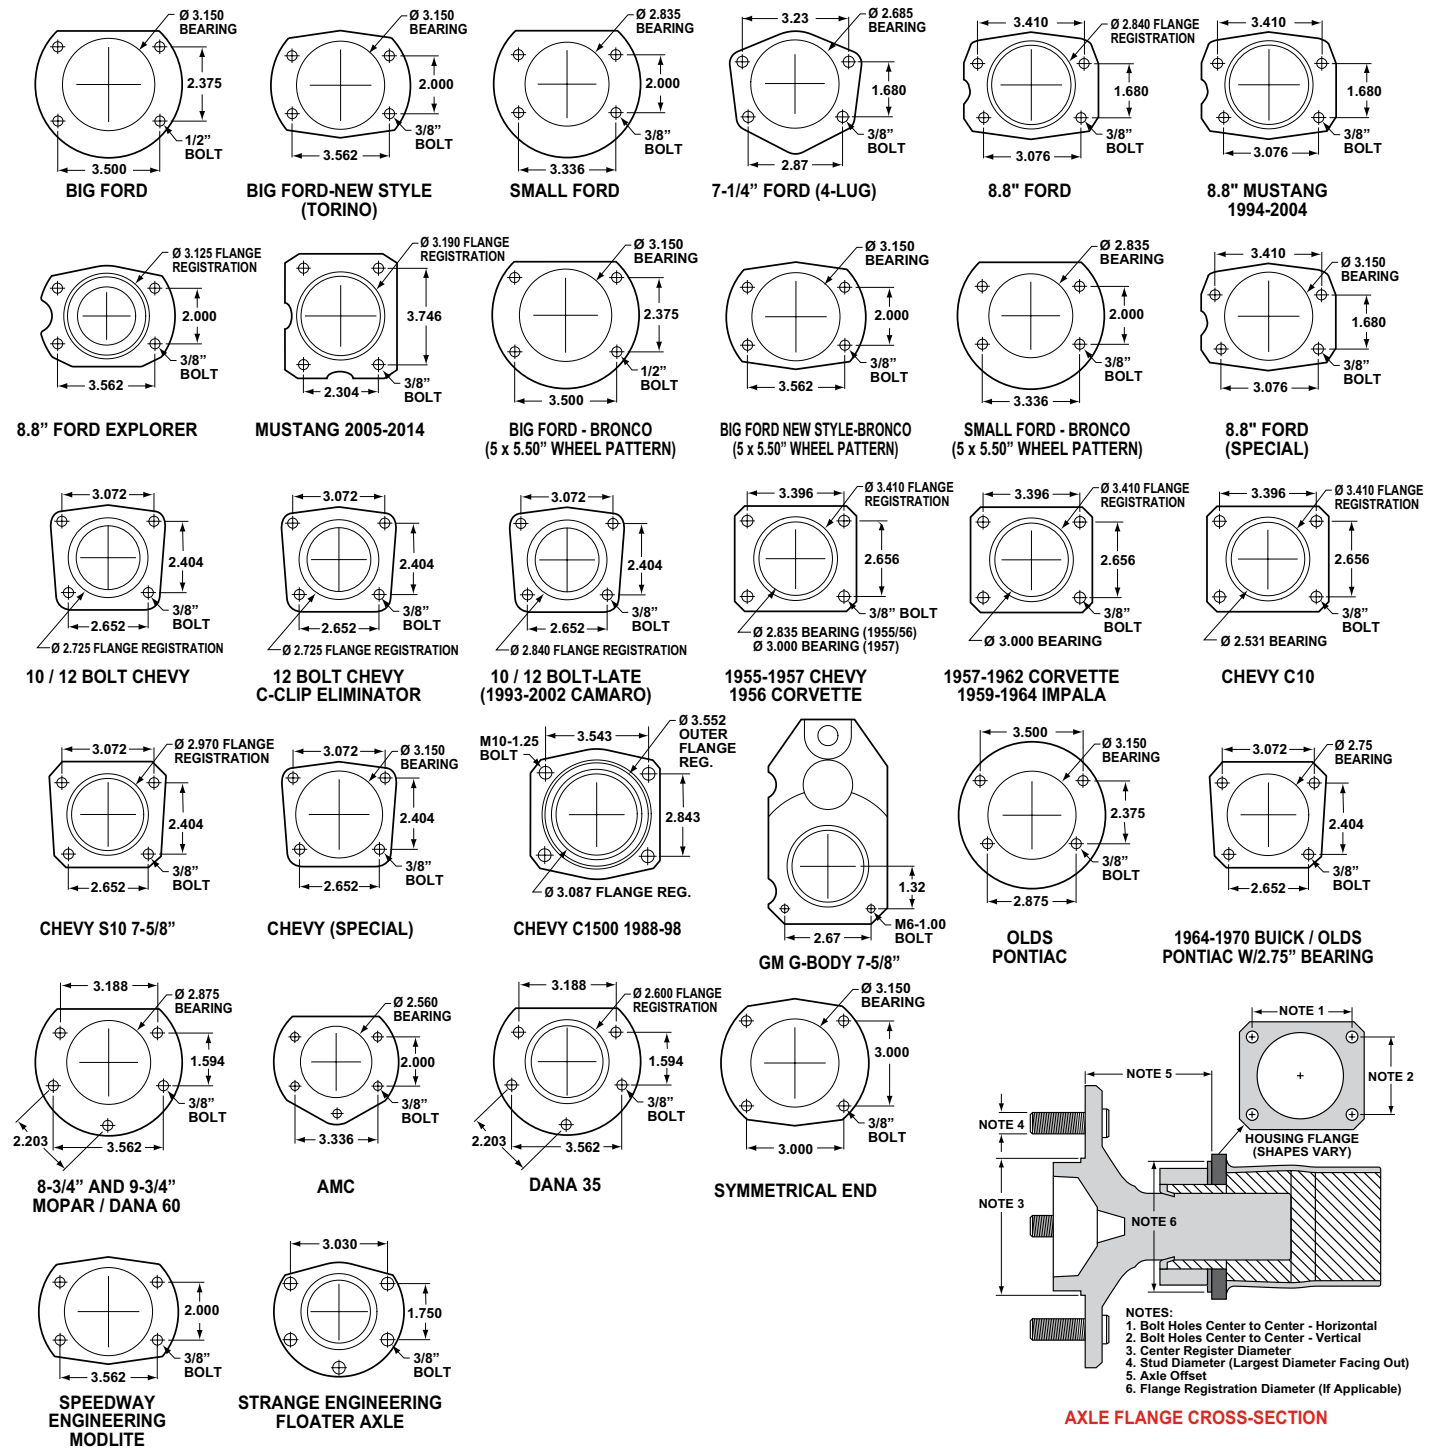

Figure 5. Rear Housing Flange Chart and Axle Flange / Offset Cross-Section
- Make sure this is the correct kit to fit the axle housing flange, not necessarily the rear end make. Many times aftermarket manufacturers put a different make of axle housing flange on the stock rear end housing (Figure 5). Example; Big Ford rear ends with Olds-Pontiac flanges, therefore, an Olds-Pontiac rear disc brake kit would be the correct kit to order.
- Dimension from wheel side of axle flange to wheel side of axle housing flange (see Figure 5, lower right hand corner). This dimension is critical to ensure proper alignment of the rotor to the caliper, and should match offset given in the kit description.